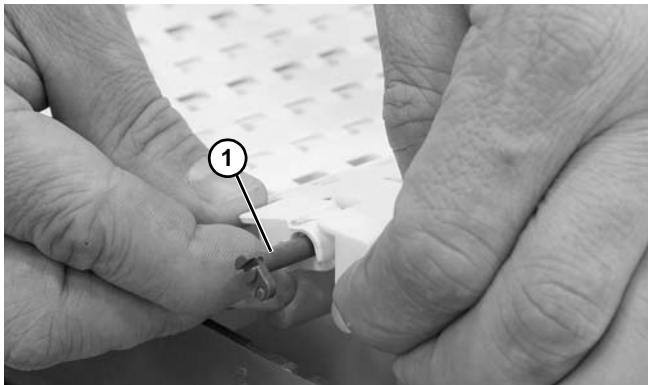

Figure 108
10. Insert the belt rod (**Figure 108, item 1**) and push it through the belt.